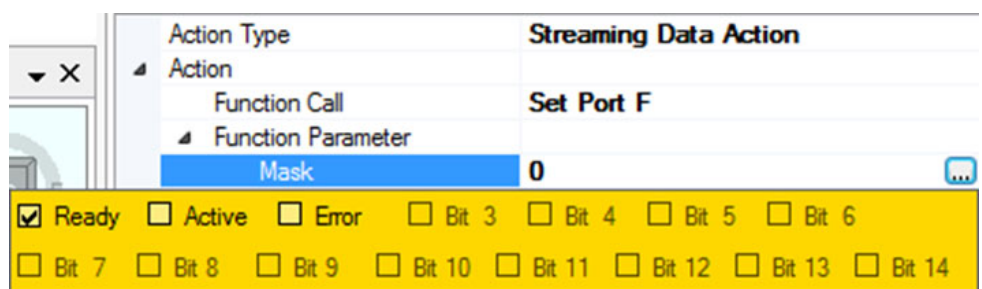

Figure 164: Set Port F
1. Setting Port F can lock the signals Ready, Active, or Error on. Figure 164 (below) shows a configuration which will turn on the Ready signal and will maintain the current settings for Active and Error.